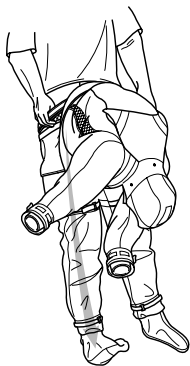

FIGURE 13
- b) Slowly slide your legs in until your toes reach the end of the socks (see fig. 13).